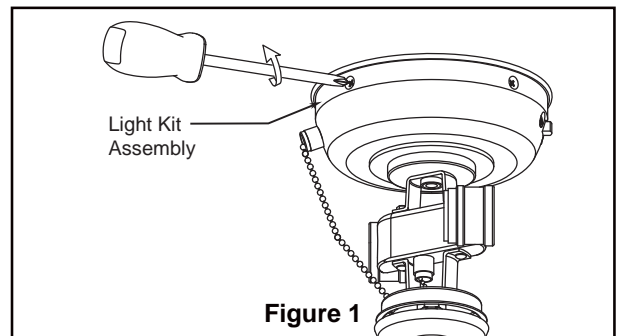

Figure 1
1. Remove the three screws in light kit assembly. Retain the screws for Step 4. (Figure 1)